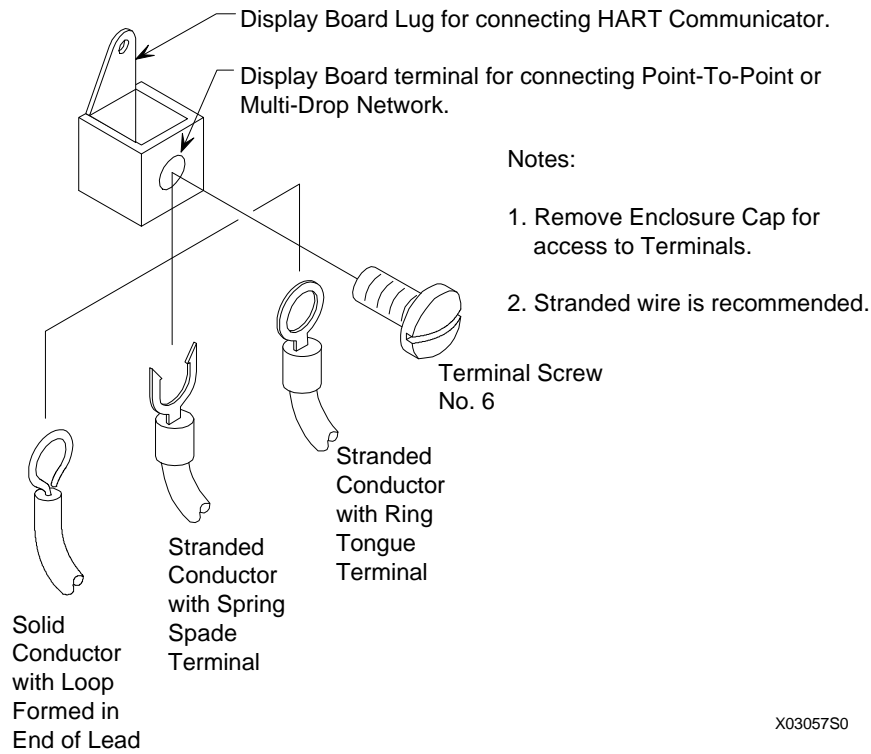

FIGURE 4-16 Conductor Terminations
This section describes loop wiring for a Point-to-Point network. Refer also to Section 4.8 for installation in hazardous locations. Figure 4-16 shows typical conductor terminations.
2. Determine method of connection to transmitter signal terminals; see Figure 4-16 for typical connection methods.